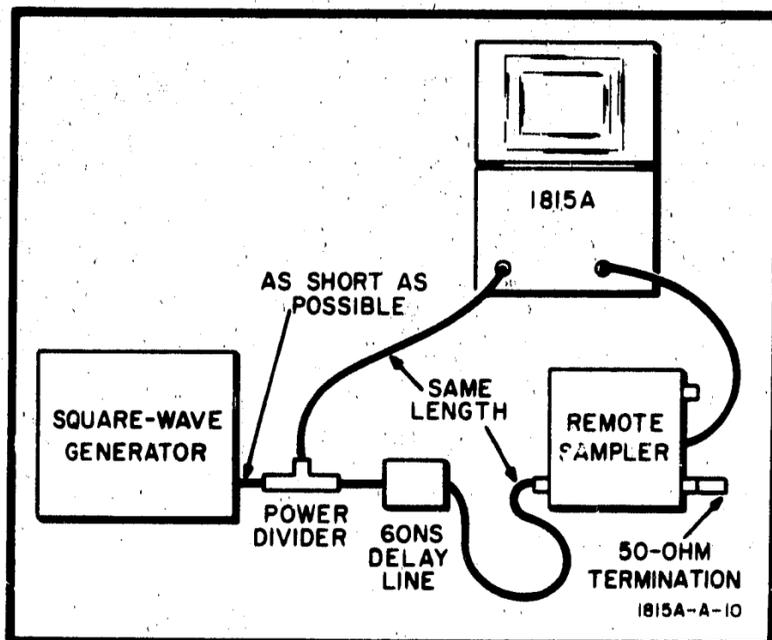

Figure 5-19. Minimum Delay Test Setup
a. Connect equipment as shown in Figure 5-19.